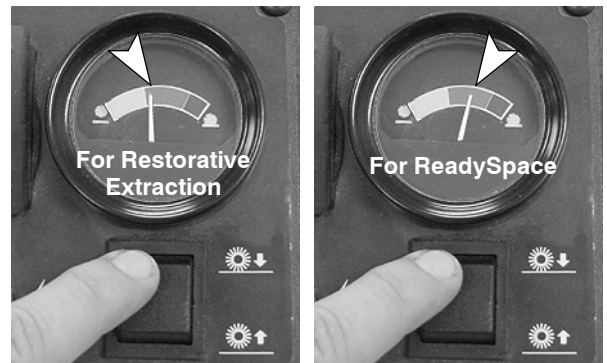

FIG. 9
4. Adjust the brush pressure meter. For best cleaning results, adjust the brush pressure meter within the green zone as shown below (Figure 9).